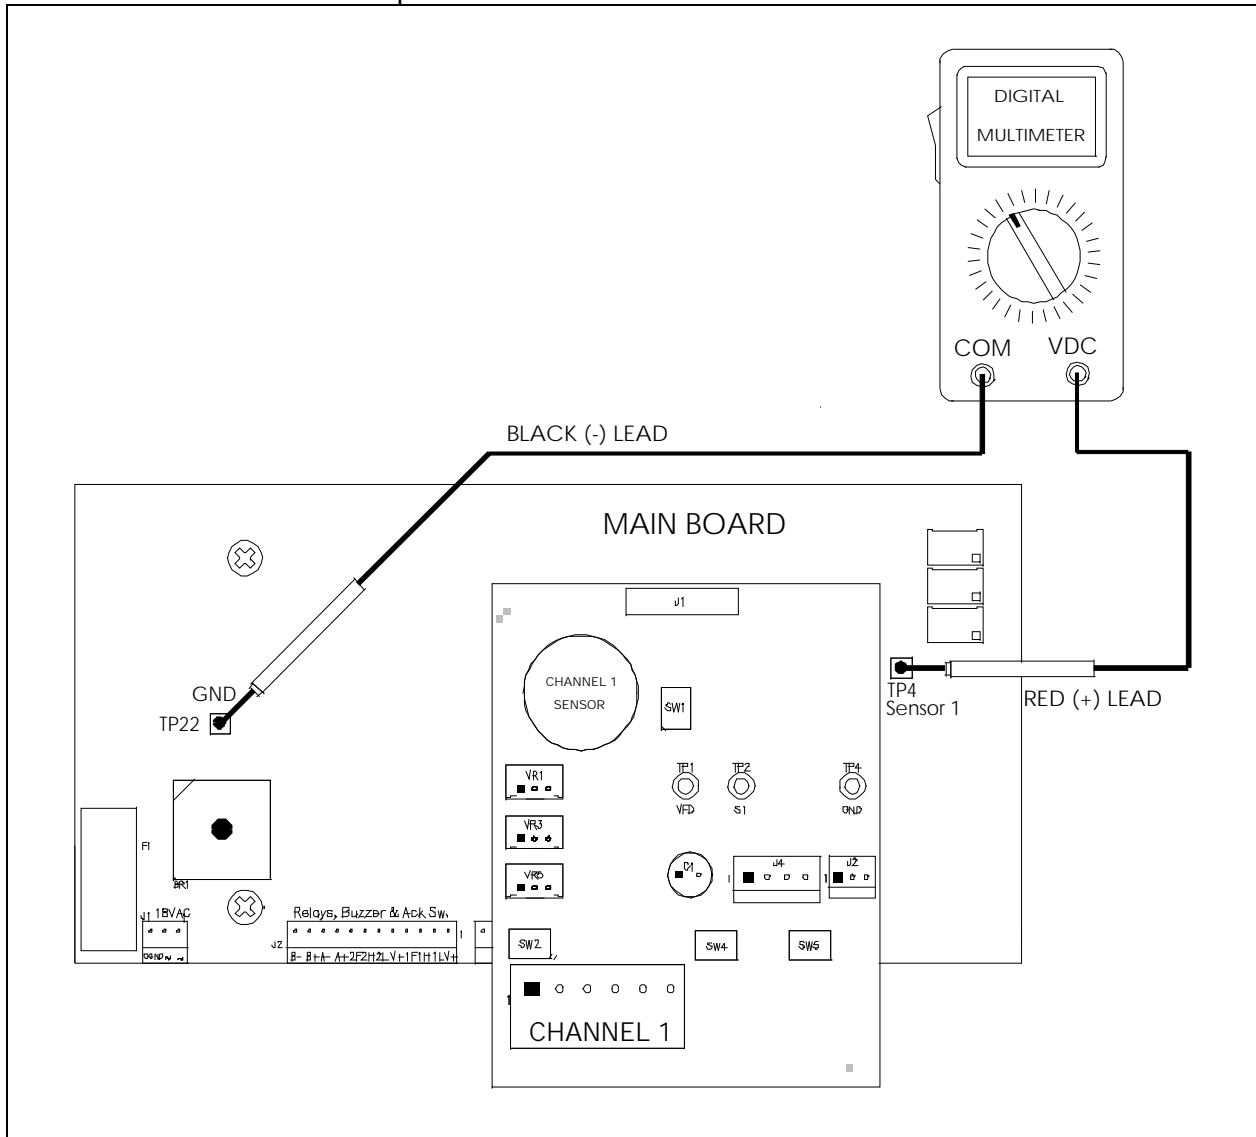

Figure 5-5: AMC-DSI Test Points and Trimpots.
Figure 5-5 illustrates the test points used to calibrate the on board sensors and VFD. Table 5-9 details the function of the test points.
Refer to the Figure 5-5 for DSI Layout, to perform the following calibration procedure:
2. Attach the multi-meter as shown in Figure 5-5.